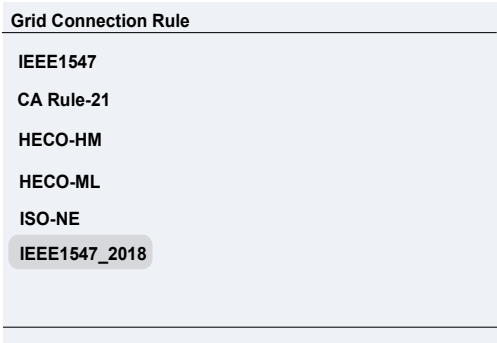

Figure 6-2- Select Grid Standard; ML-Molokai/Lanai; OHM- Oahu, Maui, and Hawaii
- c. The default grid standard is IEEE 1547. If a different standard is needed please go to “Menu Functions” section for further instructions on how to change it. Available grid standards are shown in Figure 6-2.